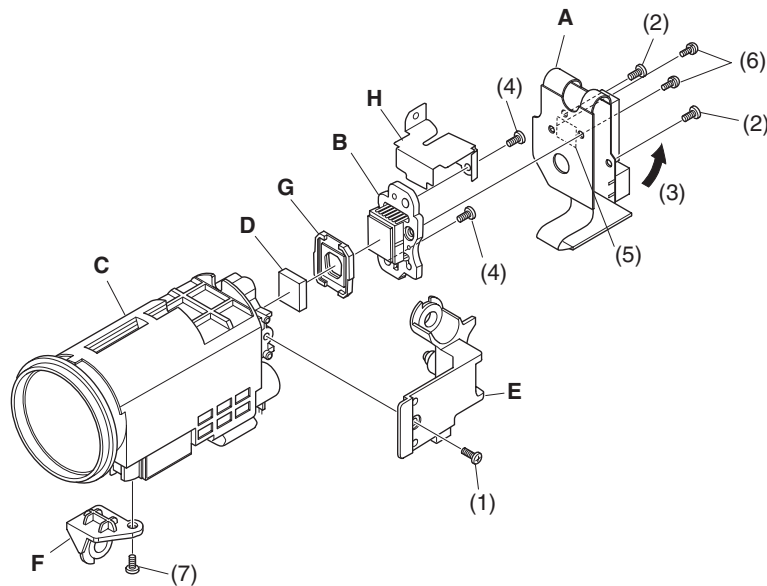

Fig. 4-9
4.9 SE circuit board, CCD image sensor, and Lens (Fig. 4-9)